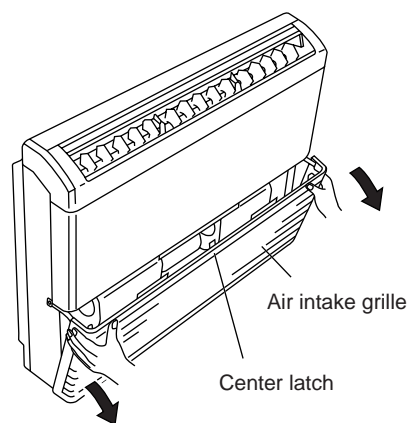

Fig.1
- (1) Hold both ends and pull forward to open the air intake grille. (Fig. 1)